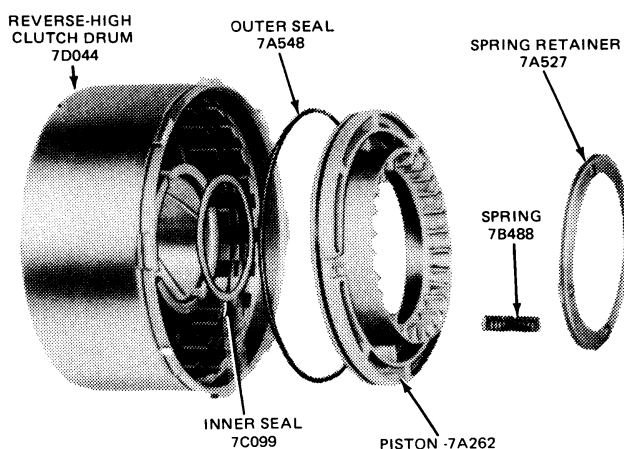

FIG. 37 Reverse-High Clutch Disassembled
- Remove the pressure plate and the drive and driven clutch plates (Fig. 37).
- Remove the piston outer seal from the piston and the inner seal from the clutch drum (Fig. 37).
- Clutch plate usage varies with each model, refer to the specifications at end of this Part for the number of plates required. Dip the clutch plates in clean transmission fluid. Install the clutch plates alternately starting with a steel drive plate (Fig. 37). When new composition clutch plates are used, soak the plates in automatic transmission fluid, (Spec. ESP-M2C138 CJ), for 15 minutes before they are assembled.